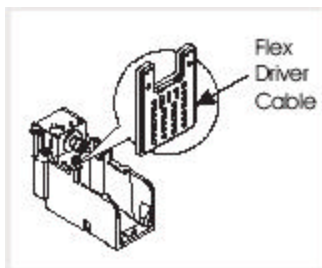

Figure 3
3. Apply distilled water to a lint-free pad and wipe the entire surface area of each cable. Allow cables to dry completely before installing cartridges. (Figure 3)